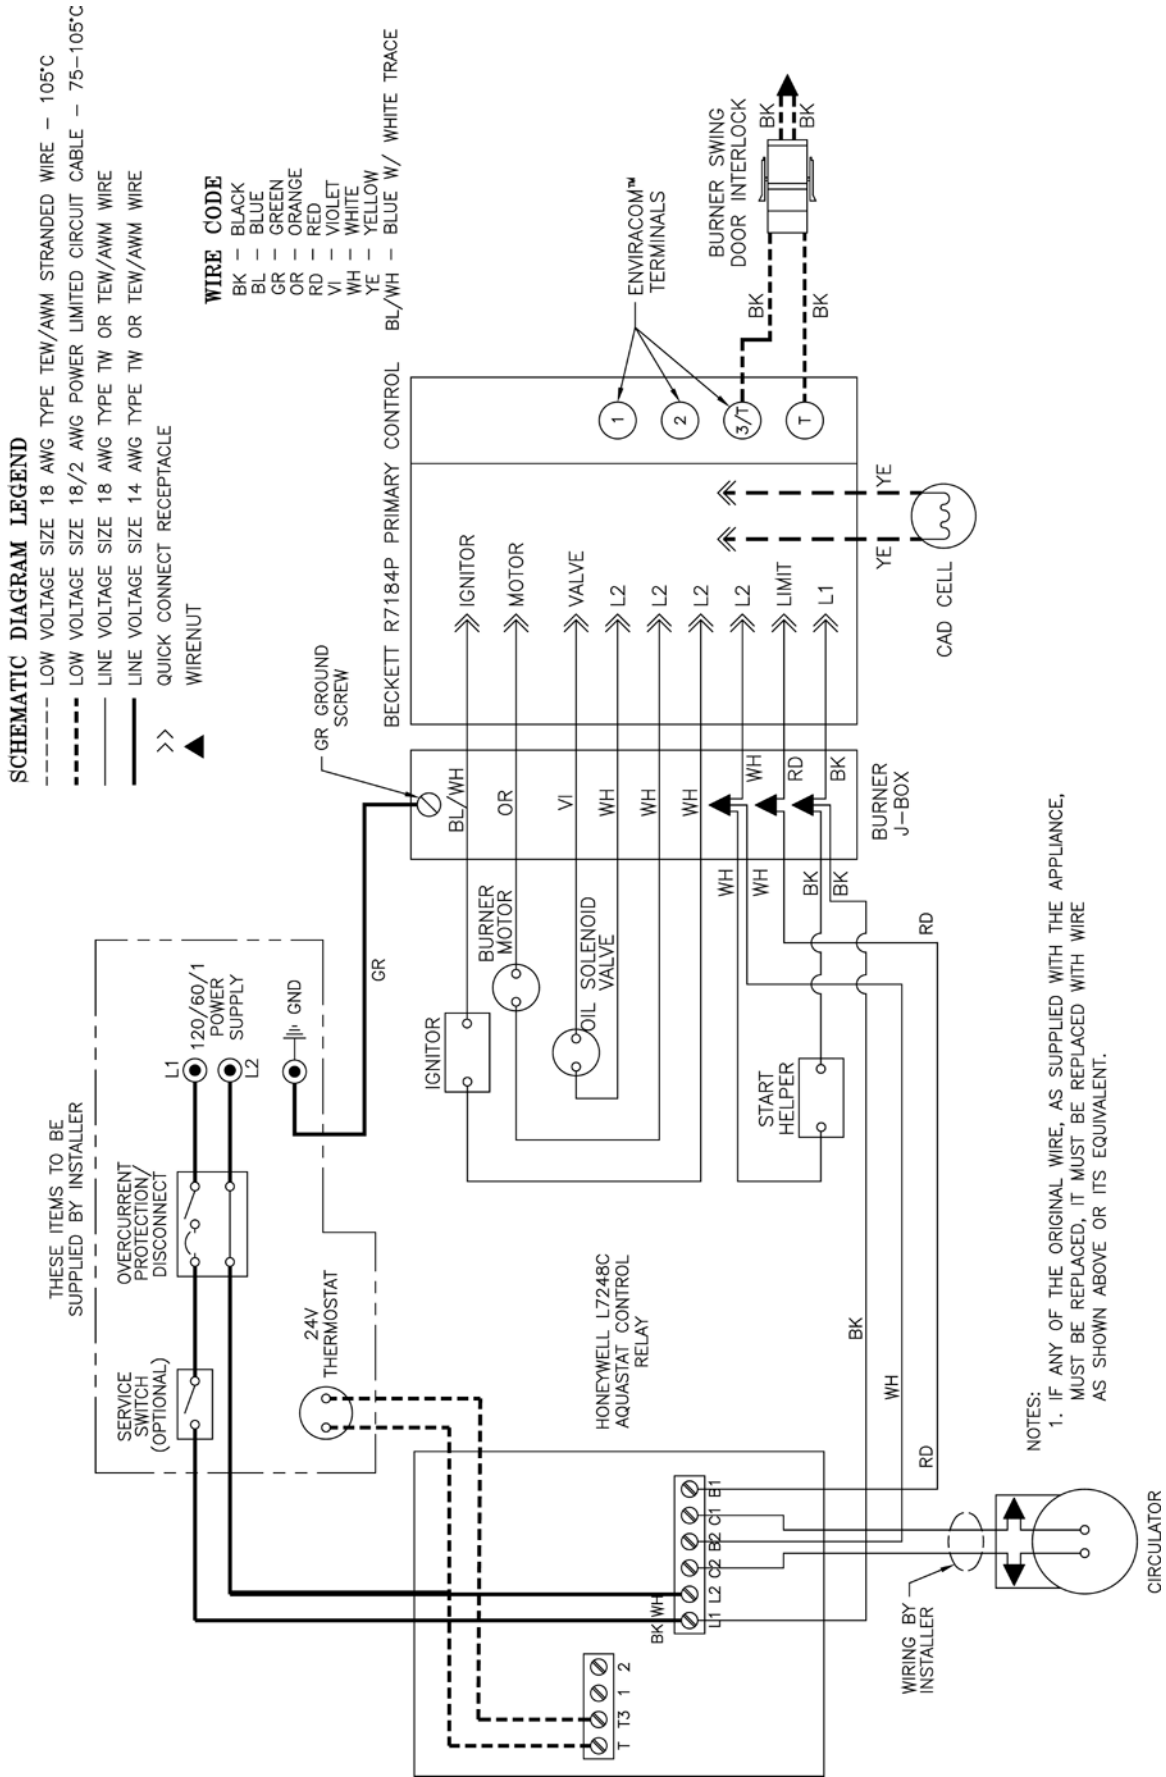

Figure 15: Beckett Burner Schematic Wiring Diagram
3. Wiring should conform to Figures 15 and 15A.